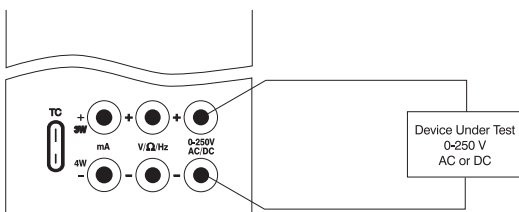

Figure 1.
2. Connect the device to be measured as shown in Figure 1.
! WARNING ! When measuring high voltage be sure to use proper connections as shown in Figure 1. Failure to do so will cause serious damage to the calibrator.